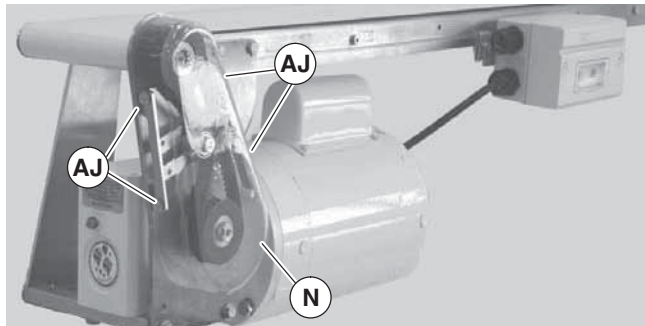

Figure 24
1. Loosen four (4) screws (Figure 24, item AJ) and remove cover (N).
Do not over-tighten screws (Figure 24, item AJ).
6. Attach cover (Figure 24, item N) and tighten four (4) screws (AJ) to 35 in-lb (4 Nm).